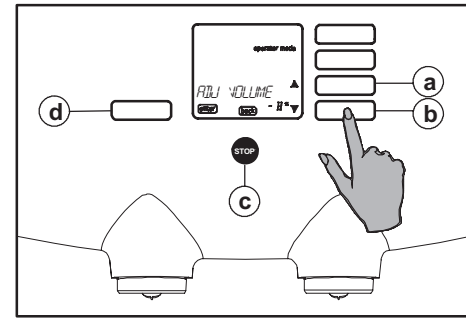

Fig. 70 Set +/- number %
4. Press the enter button (fig. 70 d). The display shows the number of percent that is set (fig. 70).
5. With the scroll buttons \updownarrow (fig. 70 a or b), select the desired volume adjustment.
6. Press the enter button (fig. 70 d) to confirm the setting.
7. Then press the stop button (fig. 70 c) to end the programming.